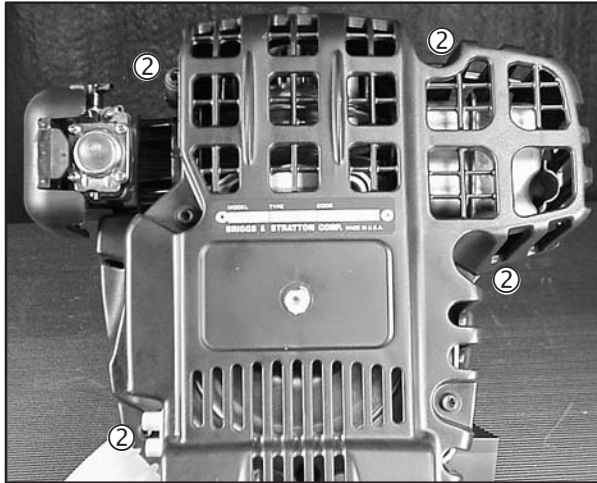

Fig. 11
5. Remove 4 screws (2) from cylinder shield side, Fig. 11.